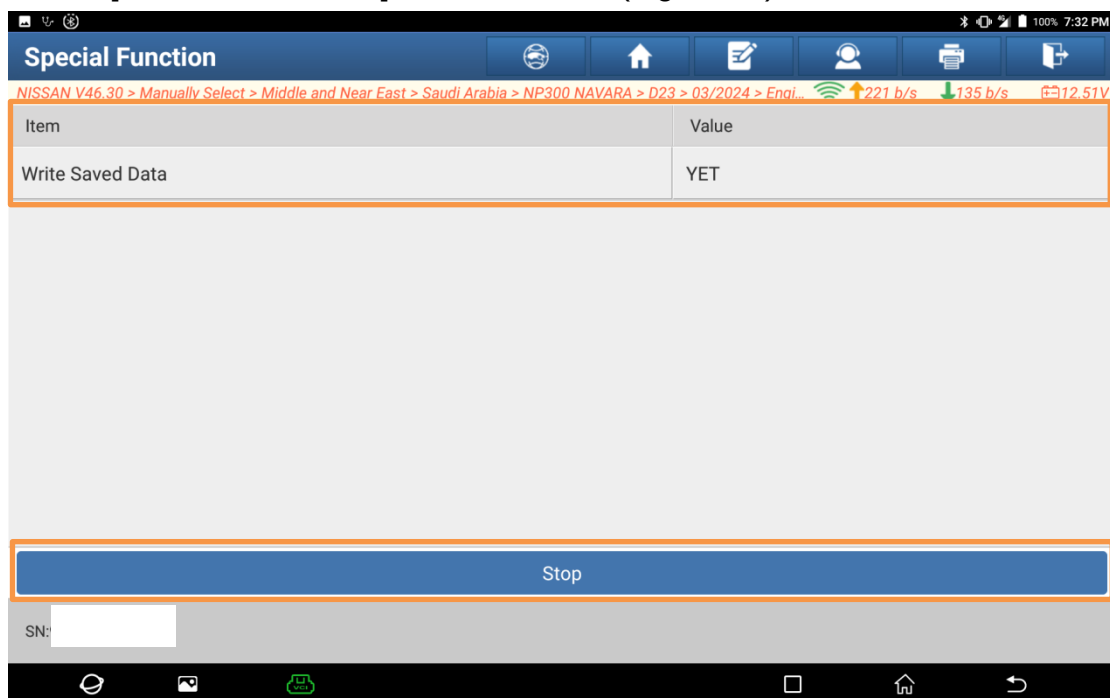
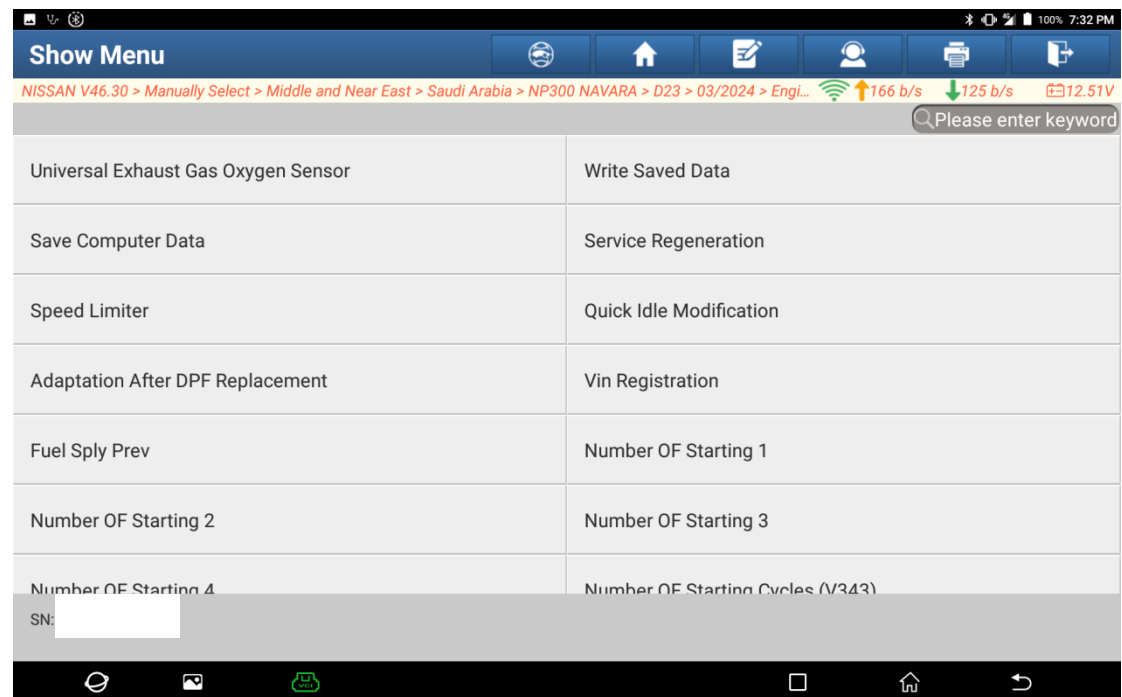

Figure 22
Figure 23
14. After a period of time, the diagnostic tool will display the function completion interface shown in Figure 22. Click the "Stop" button to return to the [WORK SUPPORT] menu interface (Figure 23).